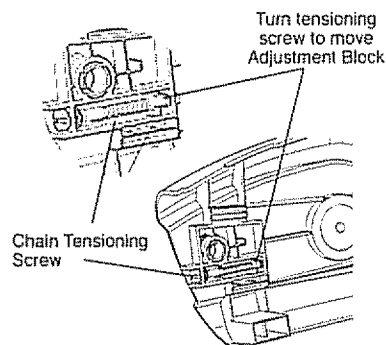

Figure 5 - Chain Tensioning Screw and Adjustment Block Location
7. Before installing sprocket cover to saw body, turn the chain tensioning screw fully counter-clockwise until it stops. This will position the adjusting block towards the end of the chain tensioning screw (See Figure 5)